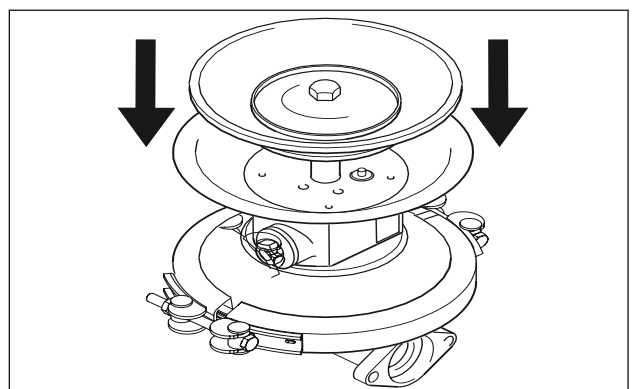
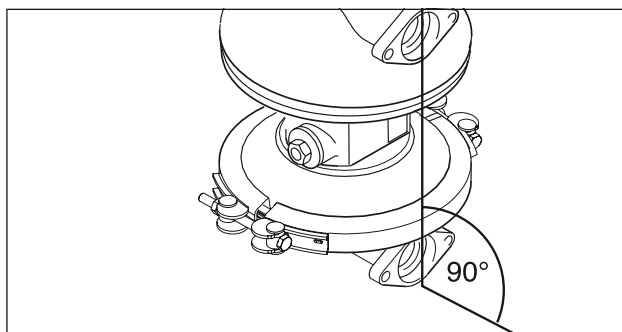

Fig. 15: Assembly of second pump chamber
Fig. 16: Alignment of pump chambers
- Assembly of the pump chamber: Assembly of diaphragm, fixation by fastening the outer diaphragm plate acc. to chapter 9.4 "Tightening torques". The pump chambers must generally be assembled with the diaphragm in suction position (Press diaphragm plate into air chamber) (Fig. 15). Fasten clamp band or mounting flange. Assemble the second diaphragm in the same way. The flange face of the pump housing must be in line (Fig. 16).